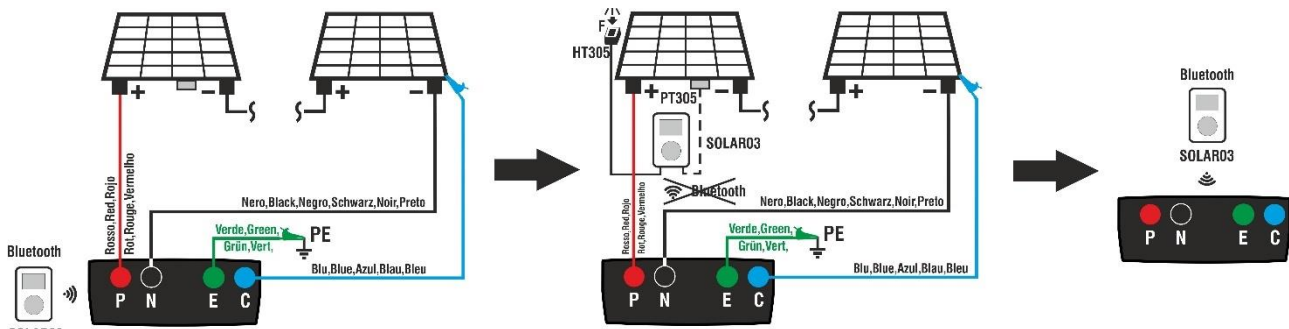
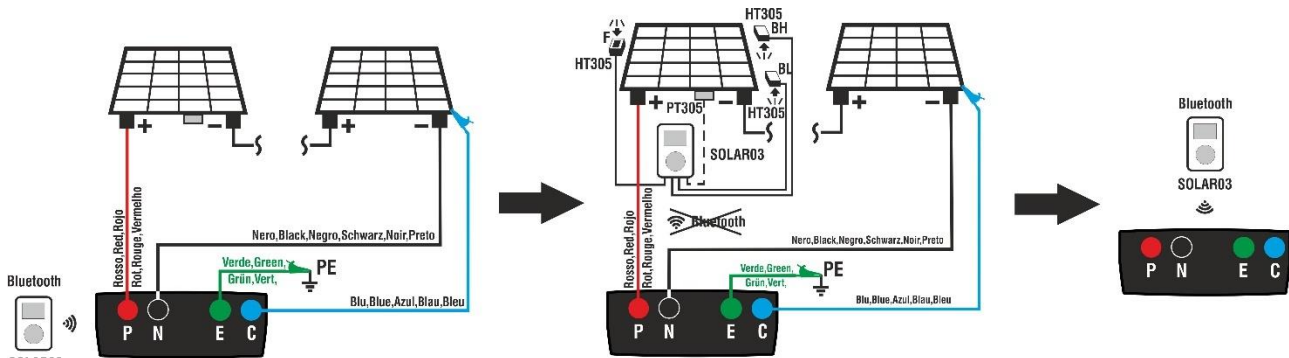

Fig. 13: Connection of SOLAR03 in recording on Mono-facial PV modules
Fig. 14: Connection of SOLAR03 in recording on Bifacial PV modules
1. Connect the instrument to the PV module/string being tested and to the main earth node of the system, and to the metal masses connected to earth as shown in Fig. 13 (Mono-facial modules) or Fig. 14 (Bifacial modules) In detail:
3. Move the SOLAR03 remote unit close to the instrument as shown in Fig. 13 or Fig. 14 – left side part
6. Move the remote unit close the modules and connect the irradiance/temperature probes as shown Fig. 13 or Fig. 14 – middle side part. **Since recording has already been activated on remote unit SOLAR03, it is not necessary to maintain the Bluetooth connection anymore.** Maintaining the connection (if possible) will only allow to immediately obtain the outcome of the test without waiting for the measuring campaign to be completed.